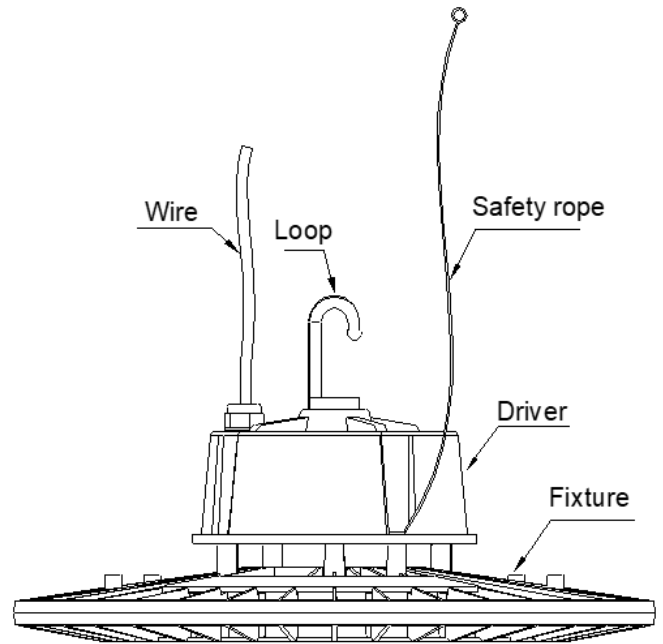

Fig.2
2. **HOOK MOUNTING:** Follow mounting directions as in Fig. 2